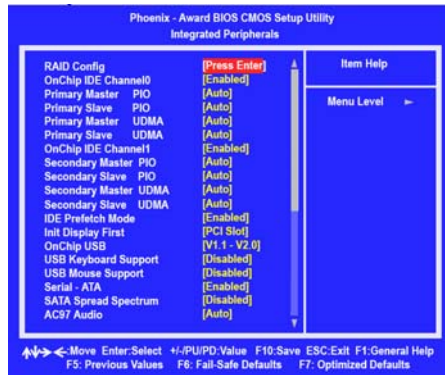

Figure 2.6 Integrated Peripherals Screen
- 3 Use the arrow keys to select the RAID Config (see Figure 2.6).